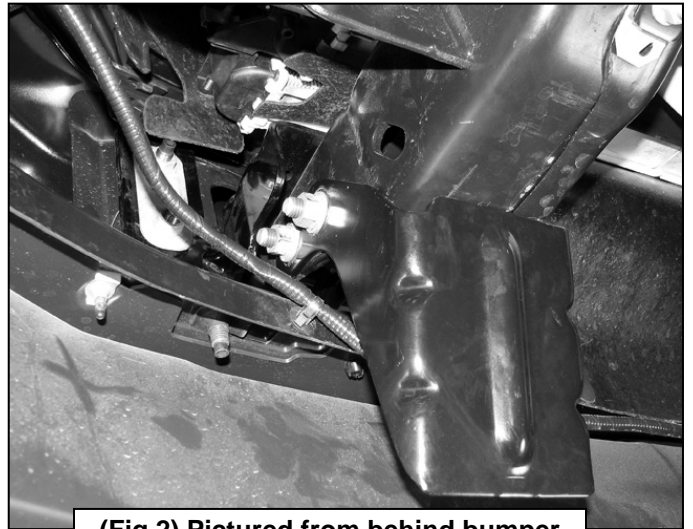

Fig 1
1. Before beginning installation, measure the gap between the headlight assembly and the bumper cover on both sides of the vehicle, **(Figure 1)**. Also note the gap between the grille shell and the bumper cover. Record these measurements as the installation requires removal of the bumper bolts and you will need these measurements to properly readjust the bumper height to its original position.